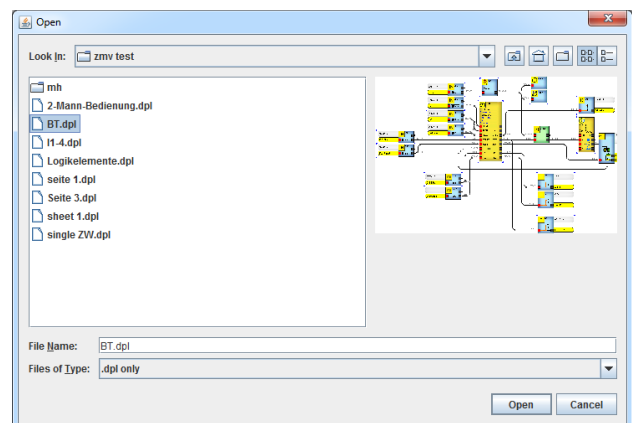

Fig. 5-12
- ▶ Select the file that you would like to insert. (Fig. 5-12)